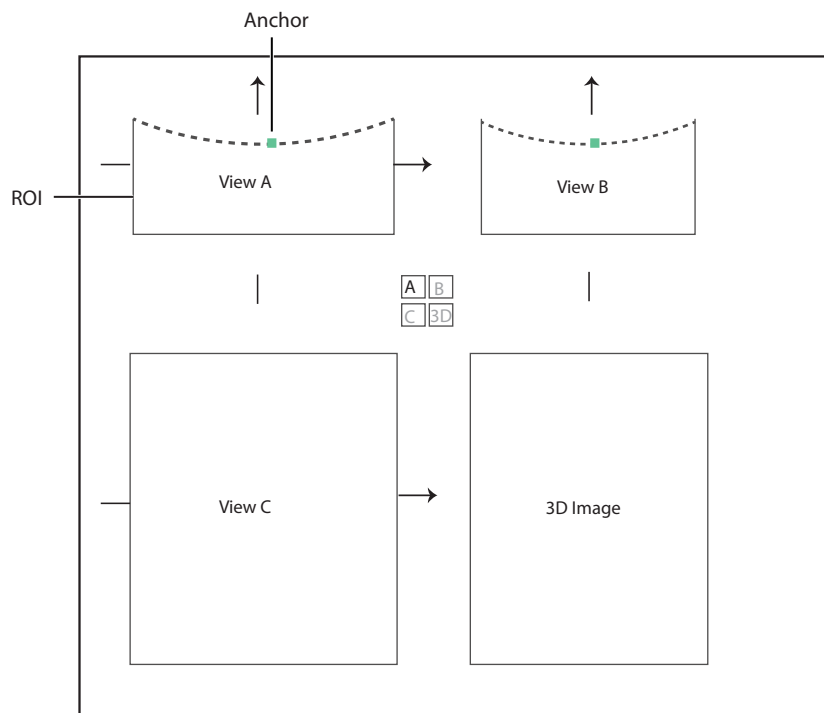

Figure 6-36 Adjusting the ROI
2. Adjust images inside the ROI on the reference image, as shown in Figure 6-36.